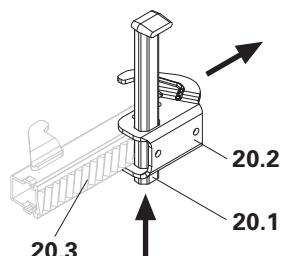
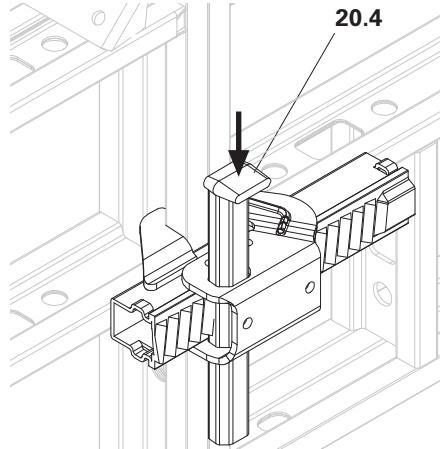

Fig. A4.02
Fig. A4.03
2. Open sliding part (20.2). (Fig. A4.02)
3. Attach Alignment Coupler (20) to panel strut (10.2).
5. Secure wedge. (Fig. A4.03) The Alignment Coupler is now securely in position.